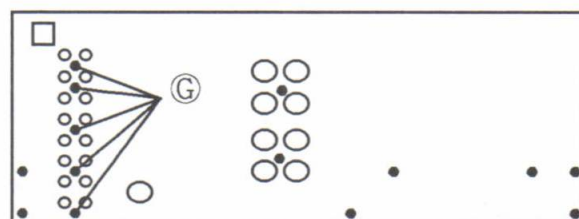

Fig 2. Rear Panel
- 6) Remove the 5 screws ⑧ fastening the Rear Panel (Fig.2).